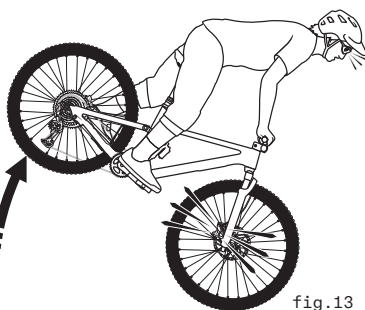

fig.13
2. Applying brakes too hard or too suddenly can lock up a wheel, which could cause you to lose control and fall. (see fig.13) Sudden or excessive application of the front brake may pitch the rider over the handlebars, which may result in serious injury or death.